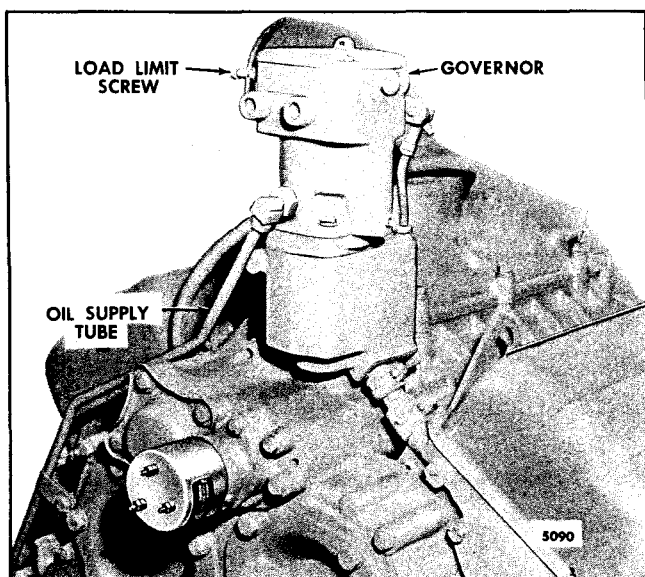
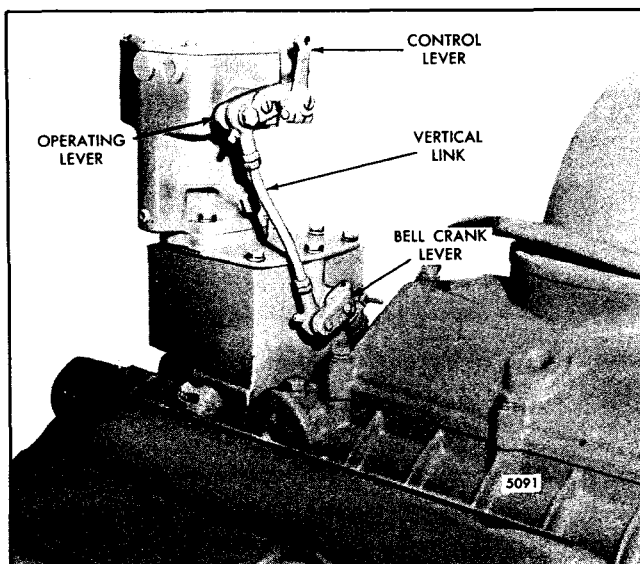

Fig. 1 - Hydraulic Governor Mounting
Fig. 2 - Hydraulic Governor Controls
The hydraulic governor is mounted between the blower and the rear end plate as shown in Fig. 1. The vertical control link assembly is attached to the governor operating lever and the bell crank lever on the governor drive housing (Fig. 2).
9. With the governor operating lever held in the *full-fuel* position, turn the load limit screw ((Fig. 1) inward until the injector racks just loosen on the ball end of the control levers, to prevent the injector racks from bottoming.